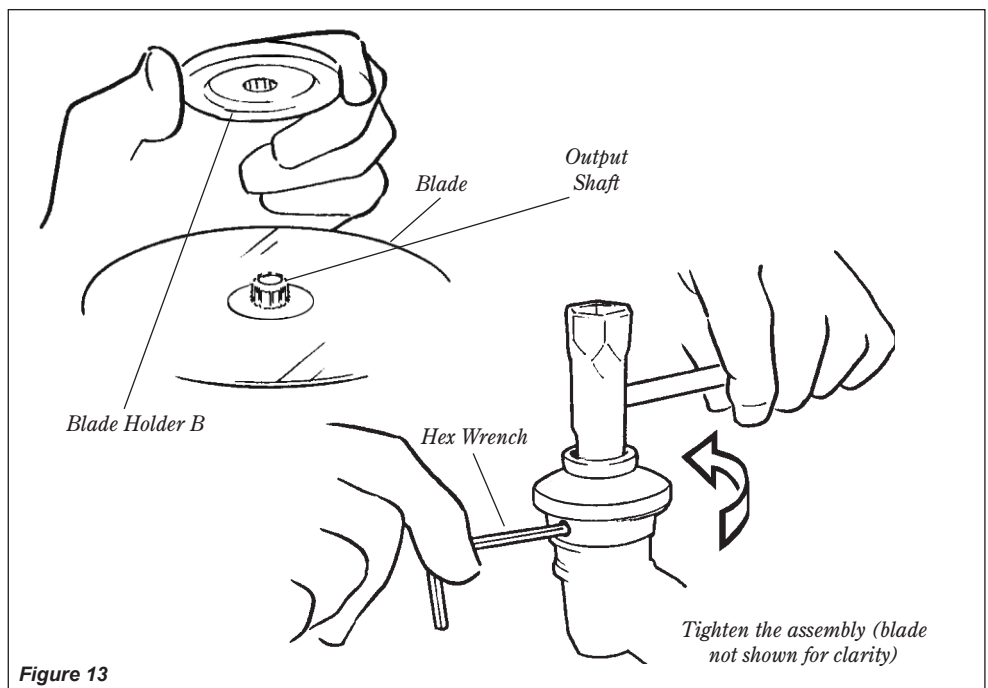

Figure 13
2. Fit the blade over the flange on holder A. See Figure 13.
3. Install blade holder B on the output shaft. See Figure 13.